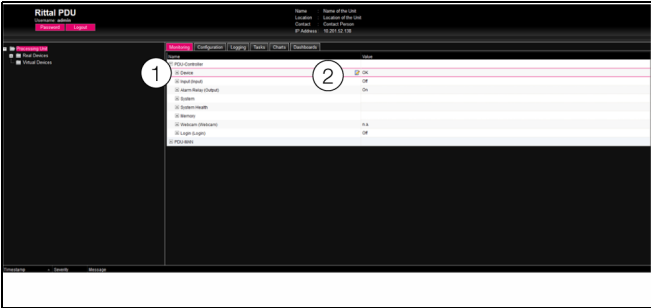

Fig. 47: Select multiple parameters
- Simply open the "PDU-Controller" entry by clicking on the "plus" symbol in front of that entry (fig. 47, item 1).
- Position the mouse pointer at the end of the first column in the "Device" line (fig. 47, item 2). An "Edit" symbol will appear, and the mouse pointer will change to a "Hand" symbol.